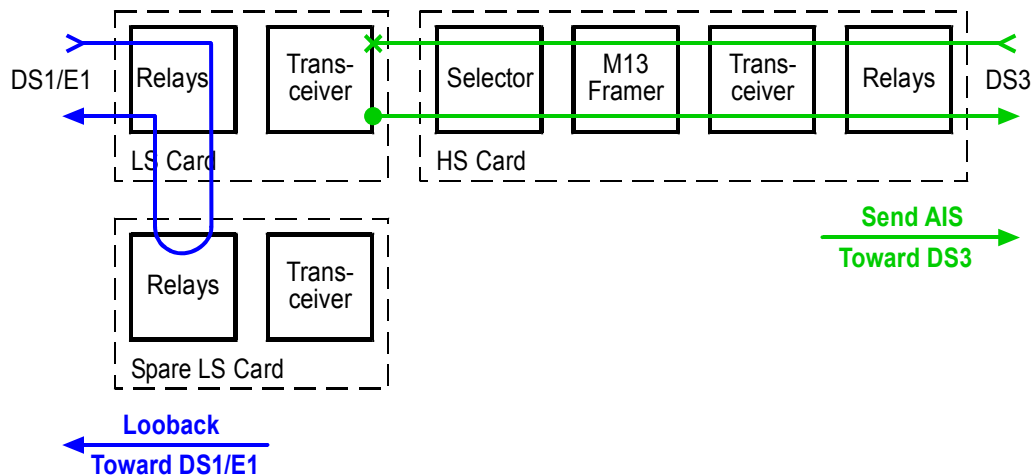

Figure 7-11 Low-Speed Metallic Loopback
1. Configure the low-speed circuits for metallic loopback. A metallic loopback is shown in Figure 7-11.